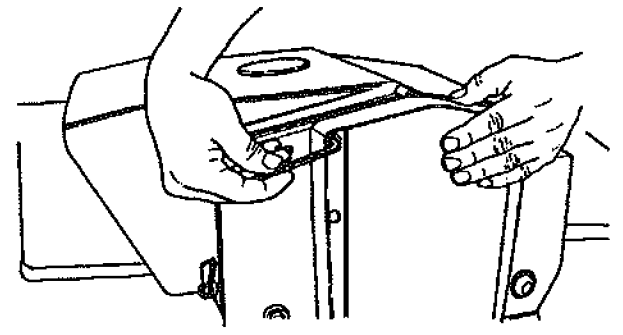

Fig. 41
51. Use a 5/32" Allen wrench to tighten the four screws attaching the pulley guard to the planer, as in Fig. 41.